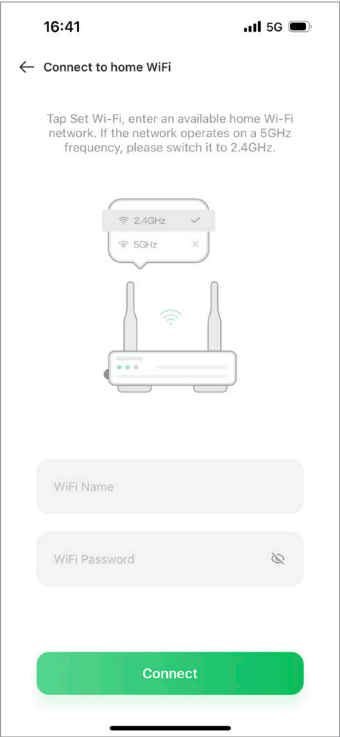

Fig. 6-11
2. Enter the Wi-Fi name and password you want to connect to. Then tap "Connect". (See Fig. 6-11)